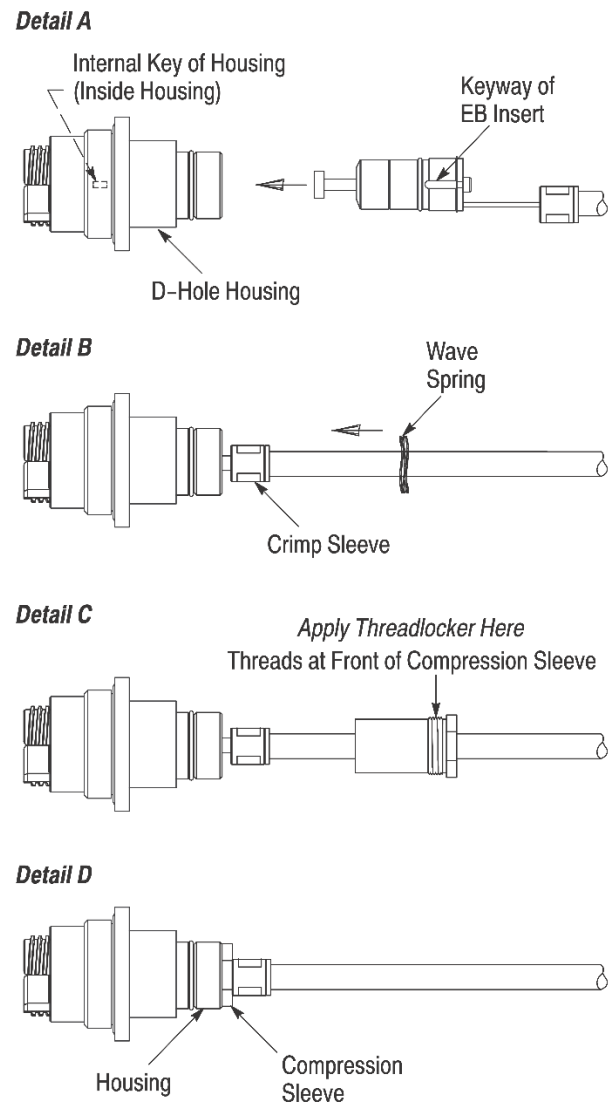

Figure 14
9. Align the internal key (small bar inside) of the housing with the keyway (slot along the outside) of the EB insert and slide the EB insert assembly (along with the fixture) into the housing. See Figure 14, Detail A.
12. Slide the wave spring over the crimp sleeve and into the housing. See Figure 14, Detail B.
13. Apply 2 to 3 drops of the threadlocker to the threads at the front of the compression sleeve. See Figure 14, Detail C.
14. Slide the compression sleeve over the crimp sleeve and into the housing. Thread the compression sleeve onto the housing. See Figure 14, Detail D.